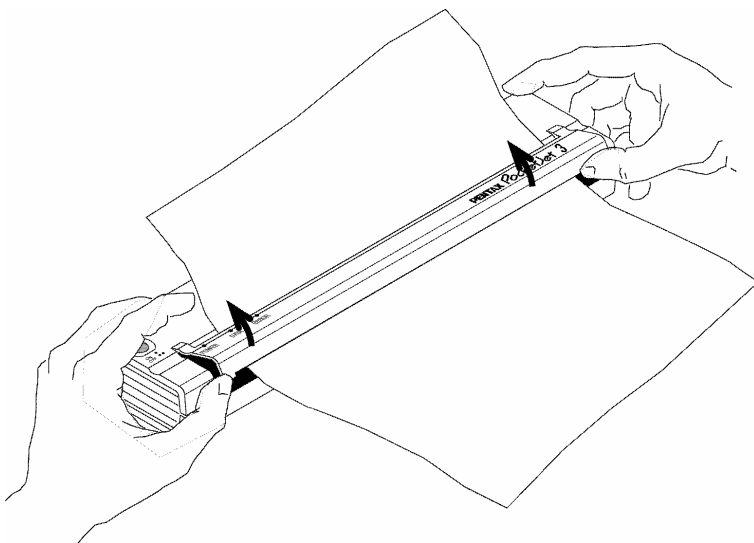

FIGURE 15. Opening the release cover
- If the printer *does not* start to print immediately, open the release cover as far back as it will go. See Figures 15 and 16, pages 45 and 46. Pull the paper out, close the cover, and reinsert paper.
See Figure 15.